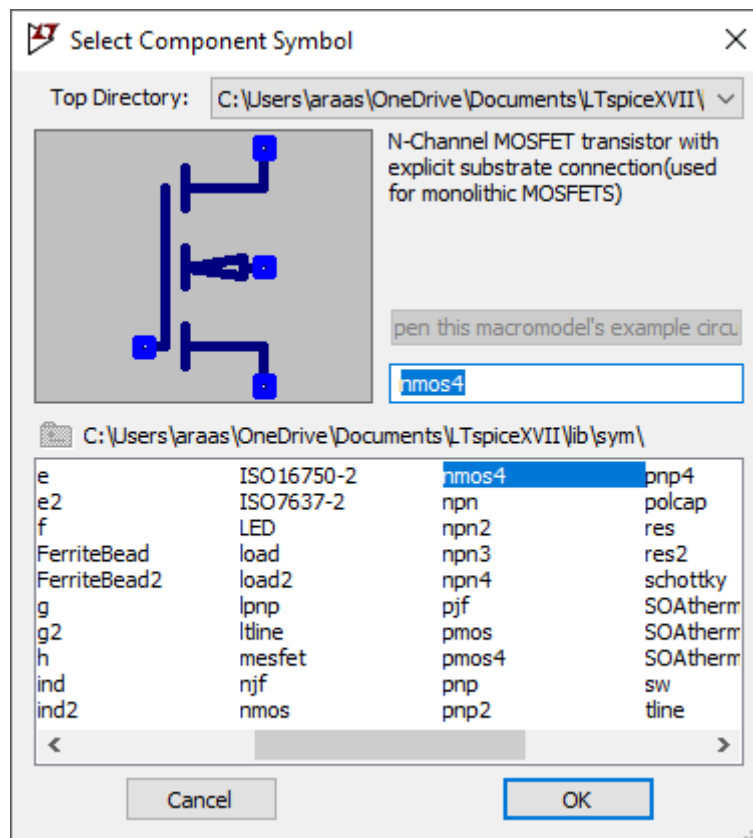

Fig. 1. N-MOSFET in components library
2. Search for **nmos4** (N-channel MOSFET) as in Fig. 1.